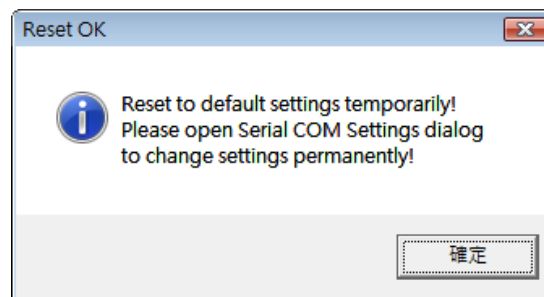

Fig. 3-7: Reset to default settings temporarily.
(1) Connect PC to the RS-232 port of IR-712A and click “Open” button in the utility to open the COM port of PC.
(2) Click Reset button within 3 seconds after cycling the power of IR-712A.
(3) A dialog as Fig. 3-7 shows that the resetting to default values is done. Notice that the parameters resetting is temporary. Please go to “IR-712A Basic Settings” interface and click “Set Permanently” button to retain the settings.